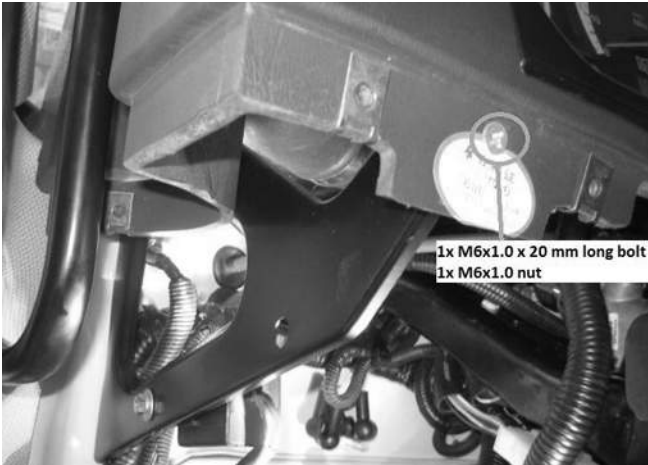

Figure 3-1
1. Remove the bolt/nut assembly on both LH and RH sides of instrument panel and set aside for reinstallation (see Figure 3-1).